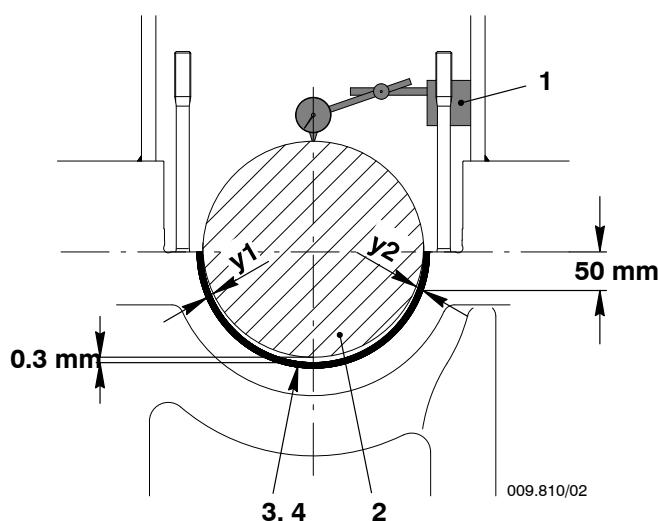

Fig. 11
- 1) Measure and record the lateral clearances (y_1 and y_2) between the crankshaft (2, Fig. 11) and the bottom main bearing shell (3,4) approximately 50 mm below the bearing.
- 2) Put the dial gauge (1) above the crankshaft (2) as shown.
- 6) Operate the hydraulic jacks (94936) to lift the crankshaft (2) to 0.3 mm.
- Install the hydraulic jacks (94936, Fig. 11) in position where the lateral bearing clearance is smaller.
- Lift the crankshaft (1) to 0.3 mm.